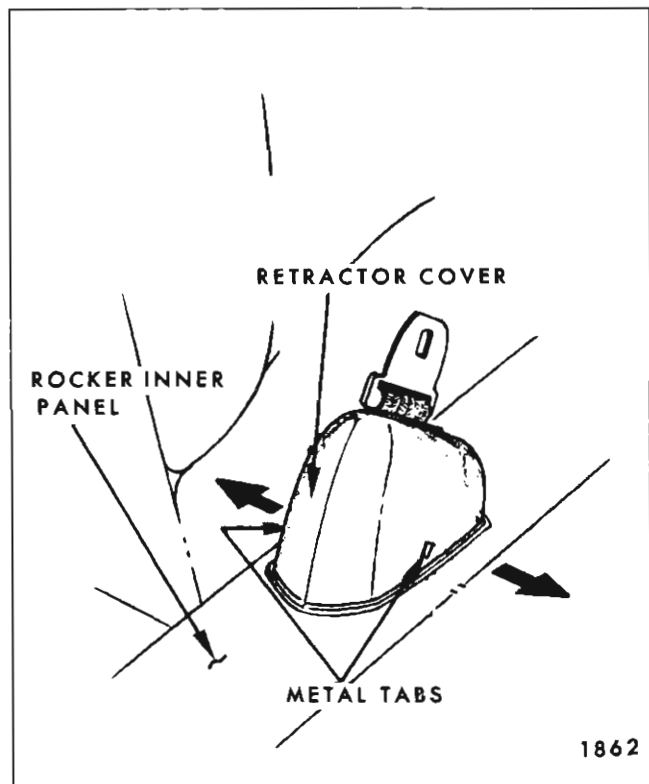

Fig. 1H47—Removal of Seat Belt Retractor Cover - All except 15000 - 16000 Series
1. Using fingers, gently squeeze retractor cover at forward and rearward ends to spread sides of cover outward sufficiently to disengage cover from metal tabs on sides of retractor base. (See Fig. 1H47).
2. Lift up cover to expose bolt securing seat belt retractor. (See Fig. 1H48).